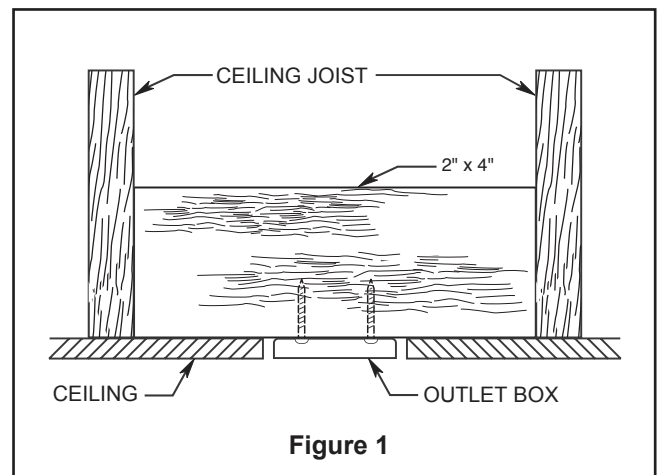
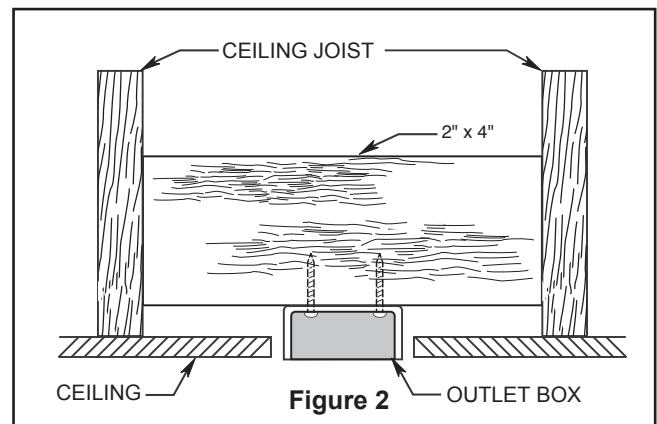
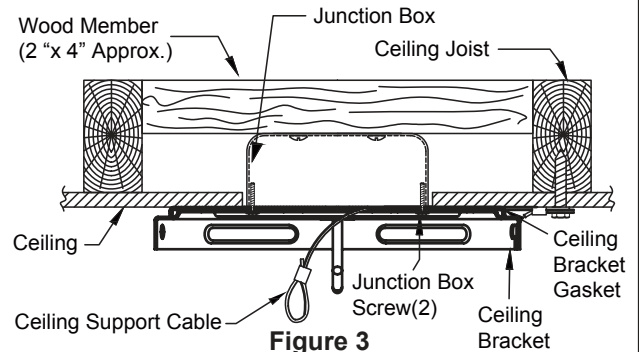

Figure 1
Figure 2
Figure 3
Your new ceiling fan will require a grounded electrical supply line of 120 volts AC, 60 HZ, 15 Amp Circuit. Electrical code requires use of a fan-rated outlet box to support the extra weight and motion associated with a ceiling fan. A fan-rated box will be labeled as such and typically supports up to a 70lb ceiling fan. Fan-Rated Outlet Boxes vary in ratings and design. Ensure the ratings of your ceiling fan outlet box meet the requirements for the ceiling fan being installed. Figure 1, Figure 2 and Figure 3 depicts different structural configurations that may be used for mounting the outlet box.
Low profile box (Figure 1)
Deep box (Figure 2)
Deep box with brace (Figure 3)
1. Using the 3/8 " x 2 " lag bolt and flat washer, attach safety cable to ceiling joist or wood structural member. The lag bolt will pass through the flat washer, safety cable loop, and into the building structure (Figure 3). You will first drill a 1/4 " pilot hole into the building structure to prevent splitting or cracking.
2. The ceiling support cable need to through the center hole of ceiling bracket when mounting. Using the two #8-32 screws and washers securely attach the ceiling bracket gasket and ceiling bracket to ceiling junction box as shown. (Figure 3)
- 3. Remove one of the three screws in the light kit assembly and retain the screw for Step 5. Slightly loosen the remaining two screws. (Figure 3)
- 3. To make fan operational, install 23A/12V battery (included) in hand-held remote transmitter, with fan power off. Then follow the remote code setting process. (If not used for long periods of time, remove battery to prevent damage to transmitter). Store the remote away from excessive heat or humidity. (Figure 3)